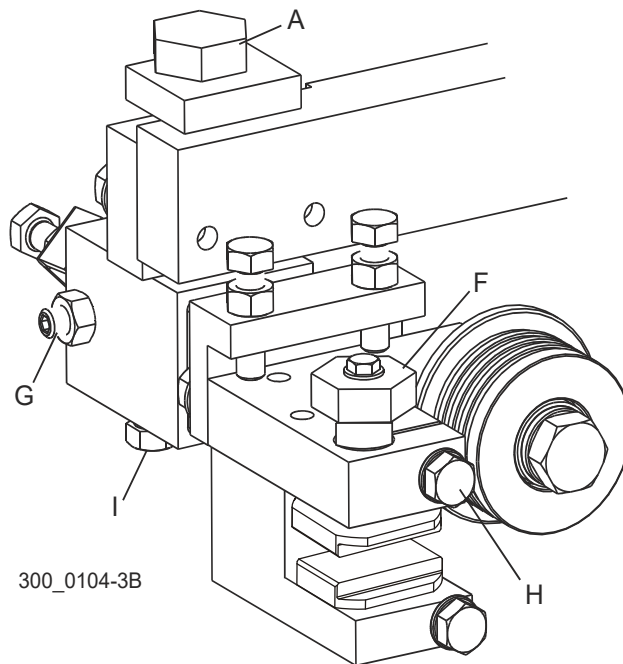

FIG. 3-33
See Figure 3-33. Standard Roller/Block Guides: Loosen clamp bolt (H) and turn the top guide block bolt (F) counterclockwise to raise the top guide block off the blade. Turn blade guide assembly bolt (A) counterclockwise to move the bottom guide block down off the blade. Check that the blade guide roller does not touch the blade. Loosen screws (G) and (I) and move the guide assembly back away from blade.